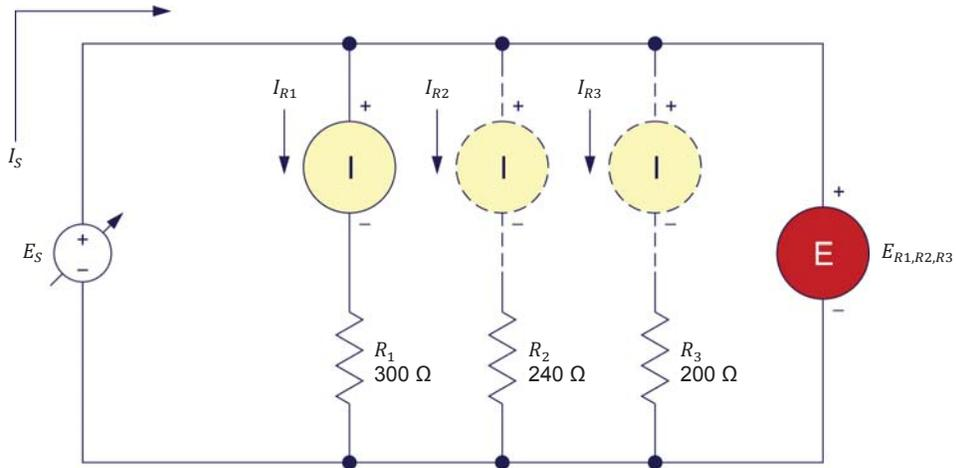

Figure 31. Circuit made of resistors connected in parallel.
11. Set up the circuit shown in Figure 31. To obtain the resistor arrangement of Figure 31, make the necessary connections and switch settings on the **Resistive Load** module.
Set a multimeter to measure dc current and connect it in series with resistor  $R_1$ , as Figure 31 shows.
Set a multimeter to measure dc voltage and connect it across the three resistors, as Figure 31 shows.
The ammeter symbol is dashed for  $I_{R2}$  and  $I_{R3}$  in Figure 31. This occurs because the ammeter (I) will be moved in the other circuit branches to measure currents  $I_{R2}$  and  $I_{R3}$ . Close the branches of resistors  $R_2$  and  $R_3$  for now, using a connection lead, in order to have the three resistors connected in parallel.
12. Calculate the equivalent resistance  $R_{Eq.}$  of the parallel resistors in Figure 31. Then, calculate the source current  $I_S$  based on the equivalent resistance  $R_{Eq.}$  and the source voltage  $E_S$  of 50 V.
16. Turn the internal power source off. Disconnect the ammeter from resistor  $R_1$  and connect it in series with resistor  $R_2$ , as Figure 31 shows. Make sure to keep the three resistors connected in parallel.
17. Turn the internal power source off. Disconnect the ammeter from resistor  $R_2$  and connect it in series with resistor  $R_3$ , as Figure 31 shows. Make sure to keep the three resistors connected in parallel.
4. Refer to Figure 31. If one of the resistors is removed from the circuit, what happens to the source current  $I_S$  and the source voltage  $E_S$ ?